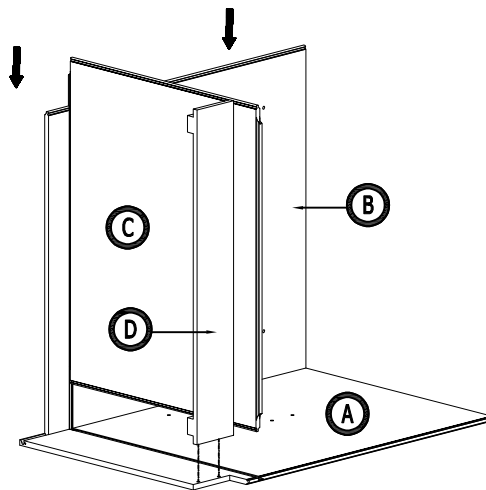

Figure 2
2. Install the Back Panel, bottom, toe kick: Insert the back panel (B), the bottom (C) and Toe kick (D) into the groove of the side panel (A) and click it into place. (Figure 2)